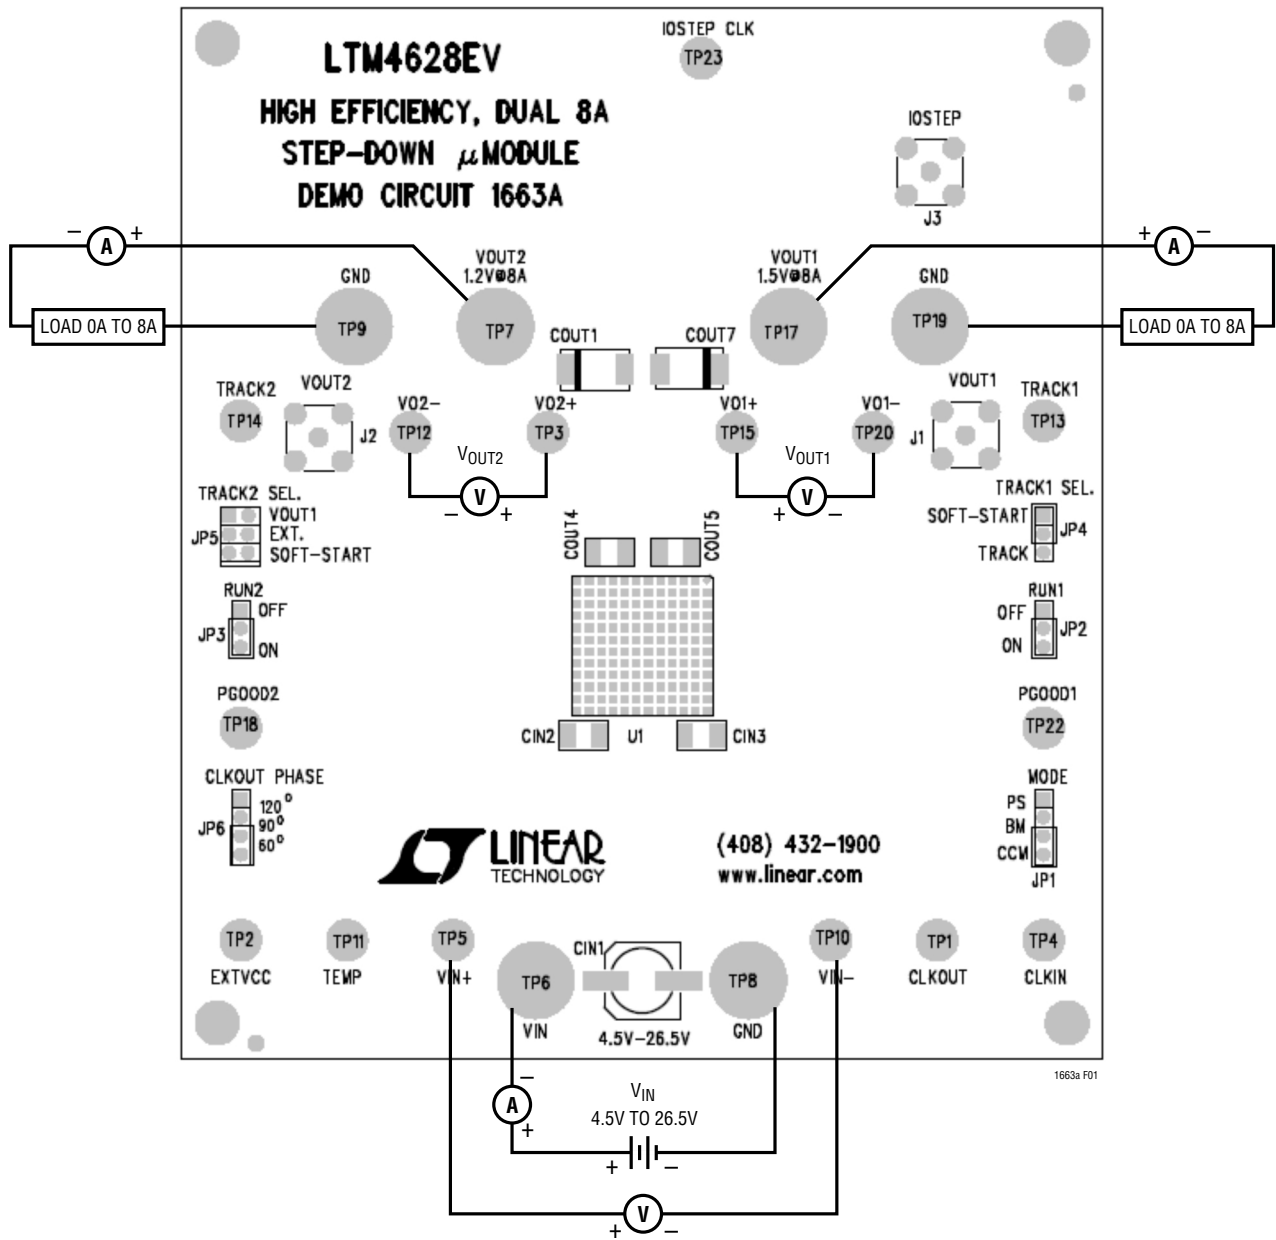

Figure 1. Test Setup of DC1663A
Demonstration circuit DC1663A is easy to set up to evaluate the performance of the LTM4628EV. Please refer to Figure 1 for proper measurement equipment setup and the following the procedure:
2. With power off, connect the input power supply, load and meters as shown in Figure 1. Preset the load to 0A and V_{IN} supply to 12V.